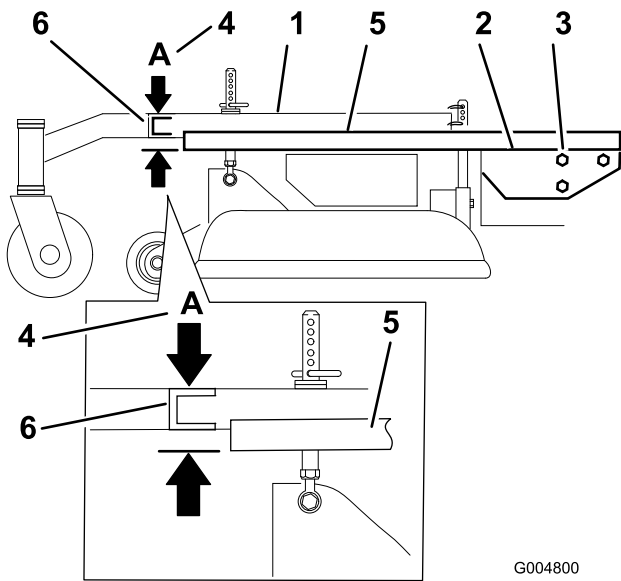

Figure 52
- Place a long straight edge on top of the engine deck as shown in Figure 52.
- At the carrier frame cross channel, measure the height at location **A** (Figure 52).
6. Loosen the carrier frame mounting bolts on both sides of the machine (Figure 52).
7. Align the carrier frame and engine deck to match 33 mm (1-5/16 inches) plus or minus a 6 mm (1/4 inch) at location **A** (Figure 52).